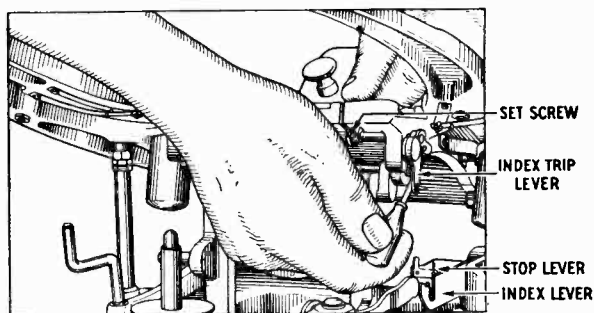

Fig. 15—Adjusting Index Trip Lever
b. Tighten the set screw on the index lever trip cam, shown in Fig. 15, so that it is against the flat of the index trip lever shaft. Loosen the lock nut in the index trip lever as shown in Fig. 15, and adjust the screw until the inside pin lowers on the stop lever and the outside pin lowers in the larger slot of the index lever when the lift ring comes down without a record.
- a. Improper adjustment of index trip lever, Fig. 15. See b, subject 16, above for proper adjustment.